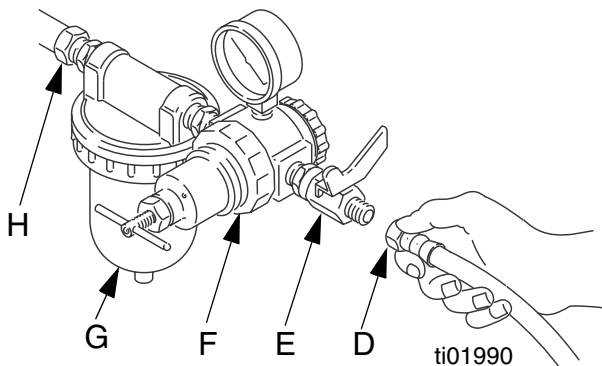

FIG. 6: Connect Air Line
- You must install an air pressure regulator (F) on each gun air line to control air pressure to the gun. See FIG. 6.
- If your regulated air source does not have a filter, install an air filter (G) on each air line to ensure a dry, clean air supply to the gun. Dirt and moisture can ruin the appearance of your finished workpiece. See FIG. 6.
- Install a bleed type air shutoff valve (E) on each gun air supply line, downstream of the gun air regulator, to shut off air to the gun.